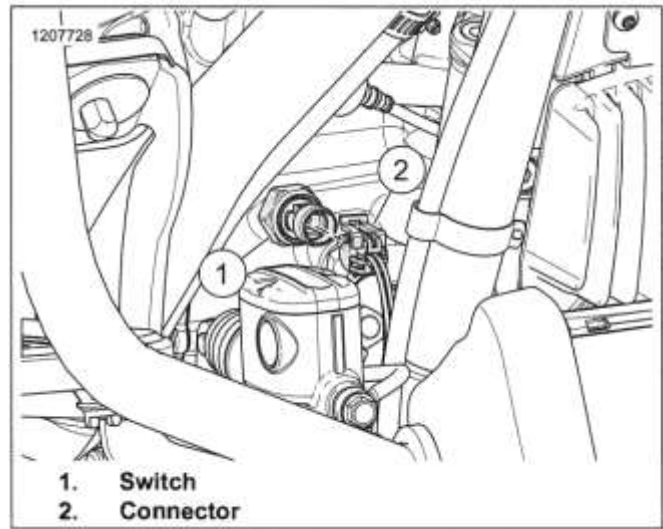

Figure 8-39. Oil Pressure Switch
1. See Figure 8-39. Disconnect connector (2).
2. Remove switch (1).
1. See Figure 8-39. Install switch (1). Tighten.